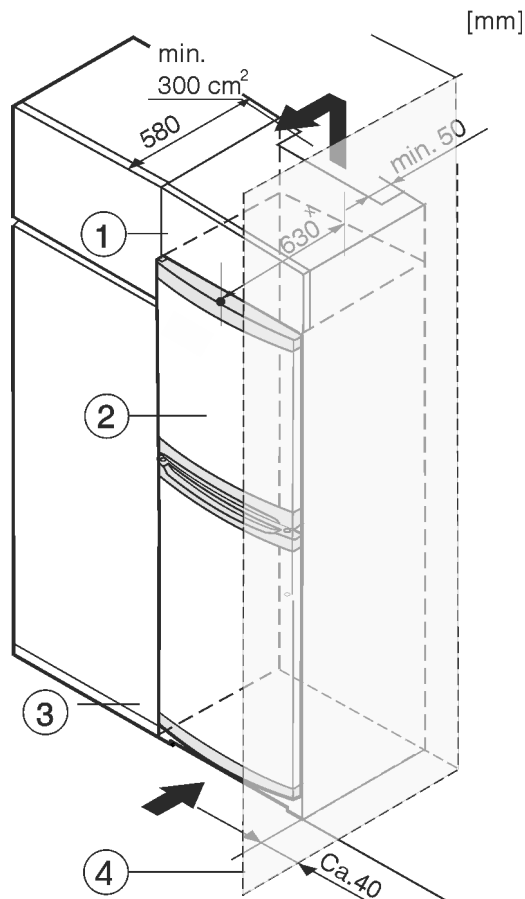

Fig. 8
The appliance can be built into kitchen units. A top cupboard Fig. 8 (2) can be added above the appliance in order to bring the appliance Fig. 8 (1) up to the height of the fitted kitchen units.
When fitting kitchen cupboards around the appliance (max. depth 580 mm), you can install the appliance directly next to the kitchen cupboard *Fig. 8 (3)*. The appliance protrudes 34 mm x to the side and 50 mm x in the centre of the appliance in relation to the kitchen cupboard front.
If the appliance is set up with the hinges next to a wall *Fig. 8 (4)*, the distance between the appliance and the wall must be at least 40 mm. This is how far the handle protrudes when the door is open.